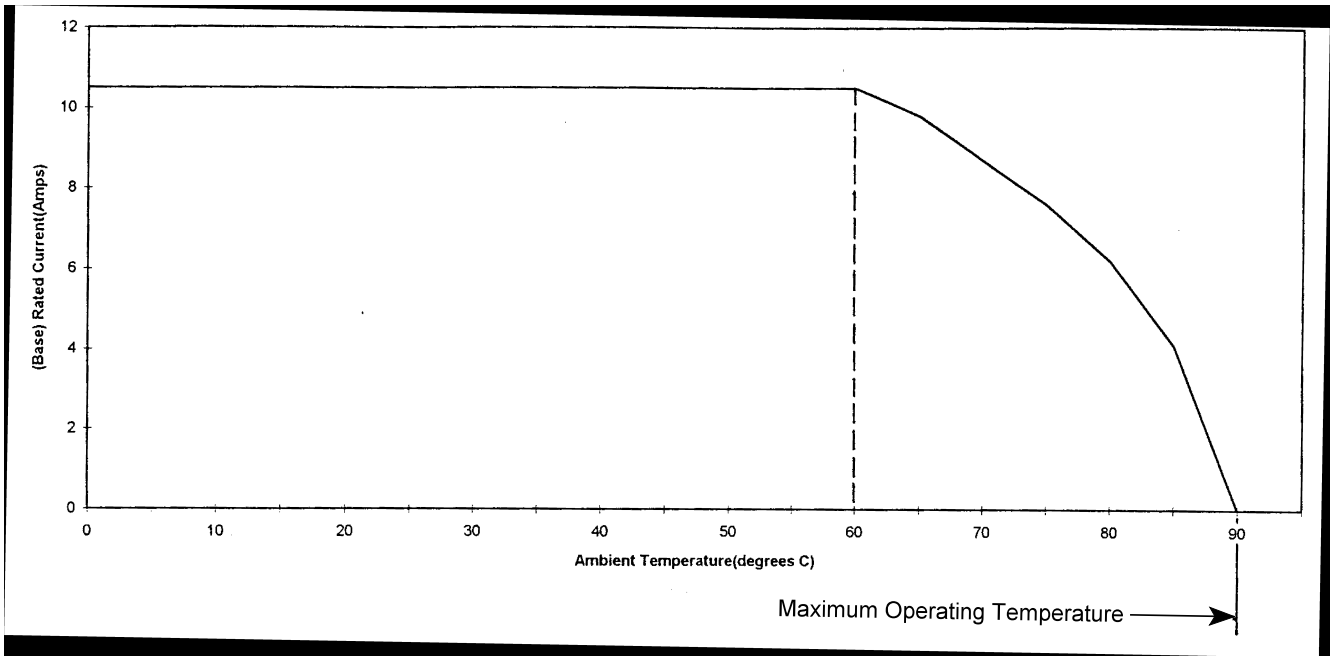

Figure 4C
To determine acceptable current carrying capacity for percentage connector loading and wire gage indicated, use Multiplication Factor (F) from above chart and multiply it times Base Rated Current for a single circuit at maximum ambient operating temperature as shown in Figure 4C.